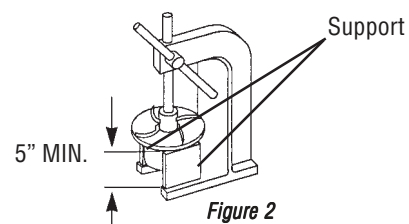

Figure 2
1. To separate the impeller drive (item 16) from the impeller (item 17), support the impeller in an arbor press using two 5-inch minimum spacer blocks
2. Insert a 1-1/2" diameter plastic or wooden shaft into the eye of the impeller and press the impeller drive out of the impeller. See figure 2.